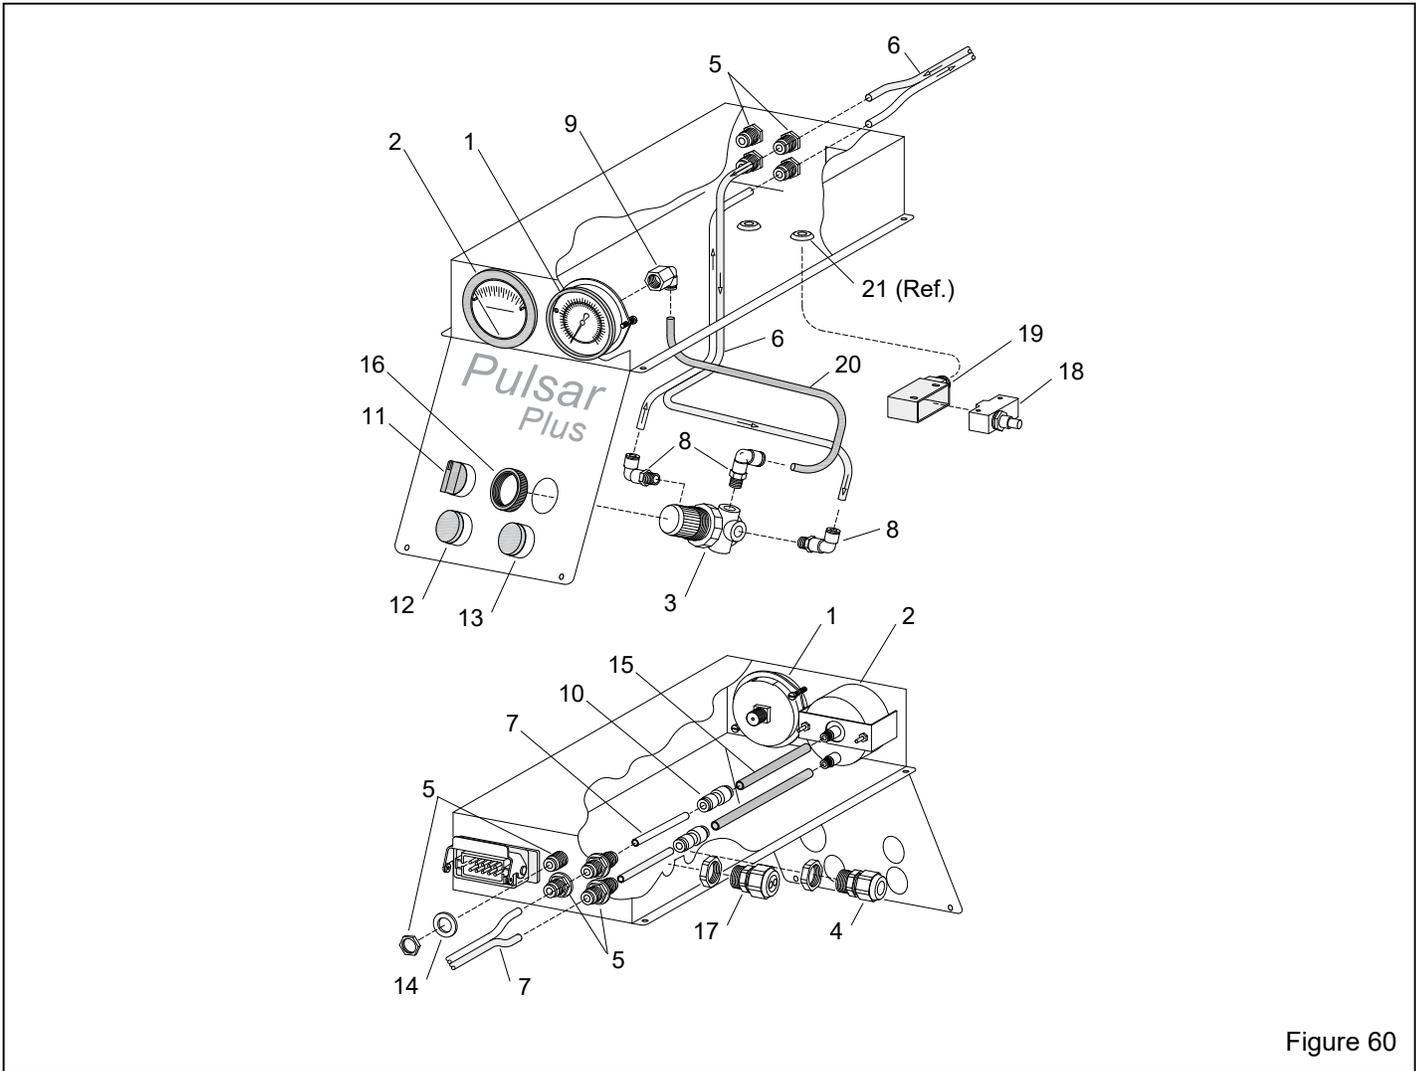

Figure 60
**10.3 Cabinet Control Console – Figure 60**